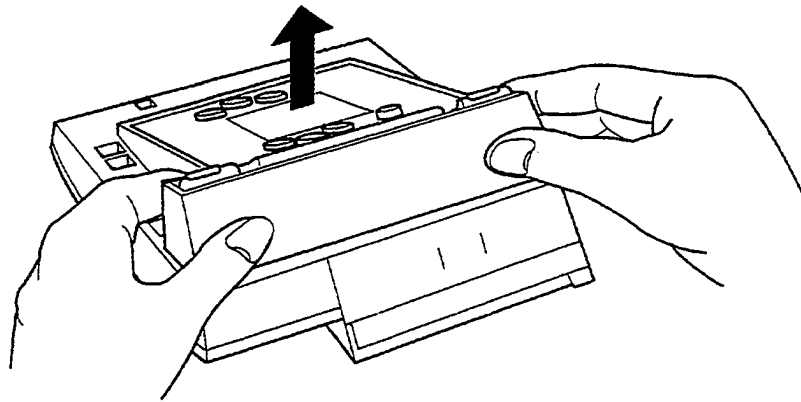

Figure 1-60 Remove the Base Unit
2. Remove the base unit by pressing the tabs on each side of the base plate and lifting upward. Refer to Figure 1-60 Remove the Base unit